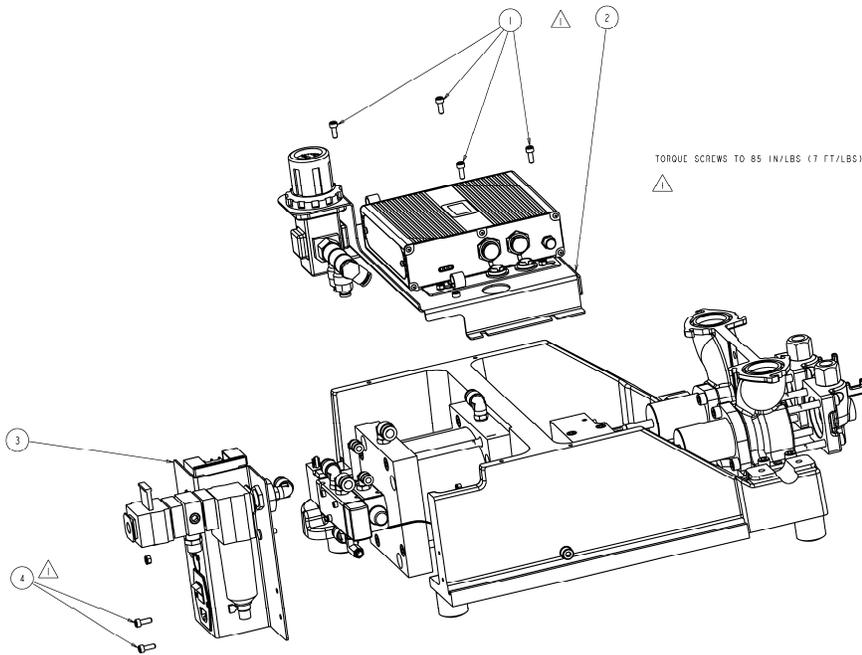
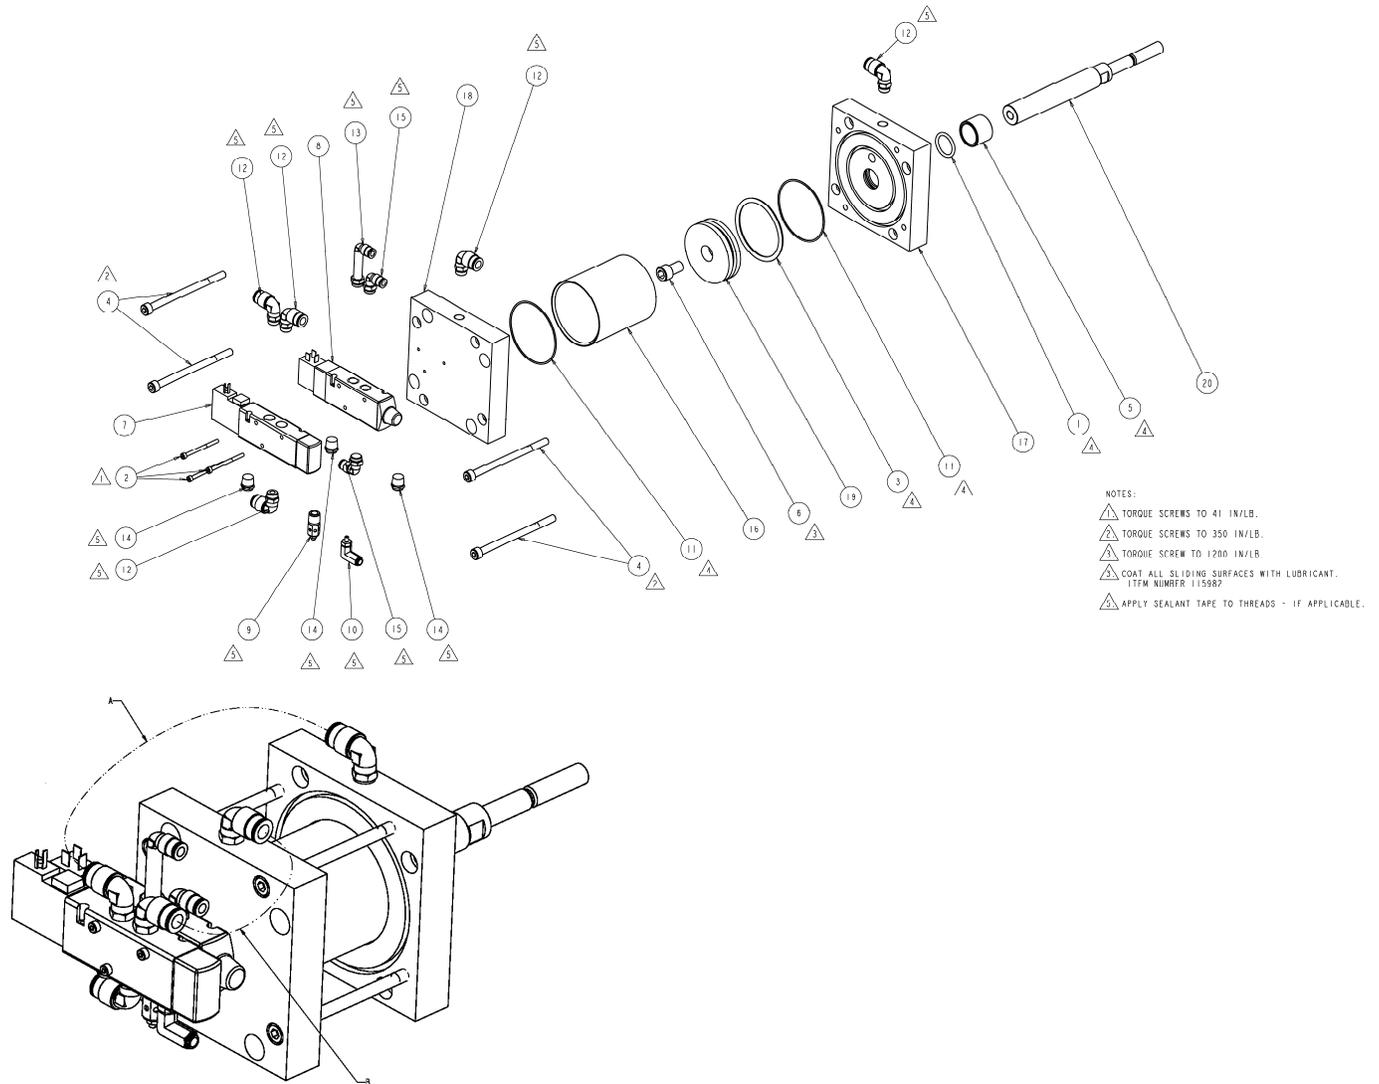

Figure 40: PR70 Power Entry Bracket and Control Bracket Assembly Attachments
Figure 43: PR70 Air Cylinder Assemblies, 3.0" & 4.5" Diameters (LC0110 & LC0111)
- Disconnect the airline, remove the PR70 Shroud, and remove the machine power entry assembly (item 3 of Figure 40) from the machine by removing the 2 attachment screws (4 of Figure 40).
- Remove the 2 air valves (items 7 & 8) from the cylinder end block (18) by removing the 3 attachment screws (2).
- With the cylinder partially removed, disconnect the airlines at the air cylinder elbow fittings (12).
- On a bench, disassemble the air cylinder by removing the 4 long screws (4), which connect the 2 cylinder blocks.
- Inspect the cylinder tube (16) and piston (19) to verify no scratches exists. Replace if necessary.
- Using a clean dry cloth, remove any existing grease from the inside of the tube (16), the outside of the piston (19) and the cylinder rod (20).
- Remove the 2 cylinder block o-rings (item 2 of Figure 40) from the blocks and replace. Remove the piston o-ring and replace (item 1 of Figure 40).
- Remove the cylinder rod from the rod end block, then remove the rod o-ring (item 3 of Figure 40) from the rod end block and replace.
- Liberaly apply Graco high temperature lubricant Grease (Graco P/N 115982) to the inside of the tube (16), the outside of the piston (19), all the o-rings and the cylinder rod (20).
- Re-assemble the air cylinder. Attach the 2 drive blocks by reinstalling the 4 long screws (4) finger tight. Then torque the screws as specified in note $\triangle 2$ of Figure 43 in a crisscross pattern.
- Before the cylinder is completely in place, re-connect the airlines to the cylinder block elbows fittings (12). Verify the correct airlines are connected (see Figure 43).
- Reattach the valves to the blind end block by reattaching the 3 screws (2).
- Reattach the power entry assembly by reinstalling the 2 attachment screws (item 4 of Figure 40).